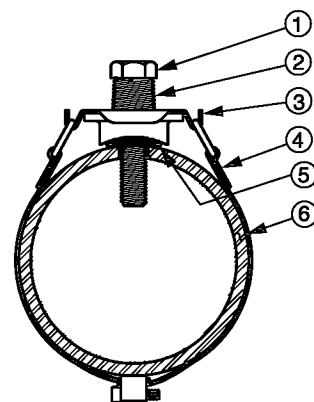

Fig. 4
3. To install the air saver control mounting base, refer to Fig. 4 and the following instructions:
- A. Drill a 1/2" (13 mm) diameter hole in the pipe (6) and remove any burrs around the hole.
- B. Place the O-ring (5) into the mounting base (2).
- C. Insert a 1/2" (13 mm) diameter by 2 1/2" (64 mm) long bolt (1) through the mounting base and into the 1/2" (13 mm) hole.
- D. Attach the air saver control clamp (4) to the mounting bracket (3) and tighten clamp, using the 1/2" (13 mm) bolt as an alignment pin.